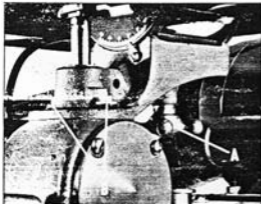

Fig. 17
To tilt the table loose knob (A) Fig. 17, tilt table to desired degree and retighten knob (A). **IMPORTANT:** When the table is to be tilted 45 degrees to the right, the position of the lower chuck must be reversed to move the thumb screw to the left hand side so that the table will not strike the thumb screw.
To rotate the table, loosen the two screws (B) Fig. 17, and rotate table 90 degrees. When the table is rotated the upper and lower blade chuck and guide will have to be turned 90 degrees.
The table top should be adjusted so that it is 90 degrees to the saw blade, by placing a small square on the table with one end of the square against the blade. If an adjustment is necessary, tilt the table until table is square with blade and tighten table tilting knob (A) Fig. 17. If necessary, adjust pointer to 0 degrees on scale.